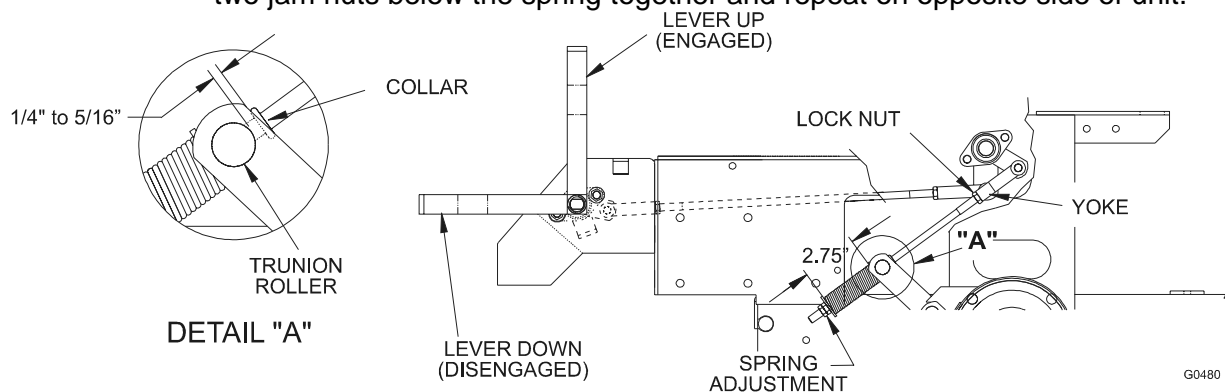

FIGURE 8
- b) Measure the length of the spring. Measurement should be 2.75" (7.0 cm) between washers (see Figure 8).
- c) Measure the distance between the trunion roller and the rod collar as shown in Figure 8A. Measurement should be 1/4" (6.4 mm) to 5/16" (7.9 mm) (See Figure 8). A 1/4" or 5/16" square key works well as a shim gauge.
- d) If adjustment is necessary, loosen the nut directly below the yoke. Turn the bottom nut (below washer) until the correct measurement is obtained (See Figure 8) turn nut clockwise to lengthen the gap (screws rod into yoke) and turn counter-clockwise to shorten the gap (screws rod out of yoke). Tighten nut against yoke and check opposite side of unit, repeat if necessary.